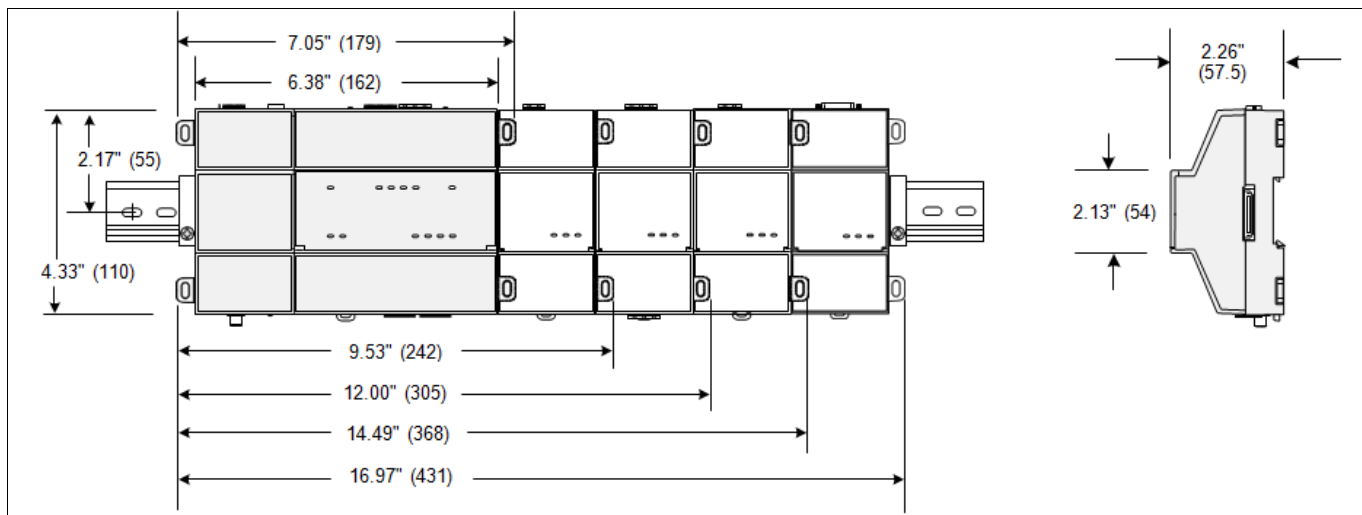

Figure 4: Mounting dimensions of the EC-BOS-8 and option modules.
- Up to four (4) option modules are supported. See “Option Module and Capacity Considerations,” page 2.
- Dimensions of a unit with option modules are shown in Figure 4: Mounting dimensions of the EC-BOS-8 and option modules. Also see “Tab Mounting Dimensions,” page 9.